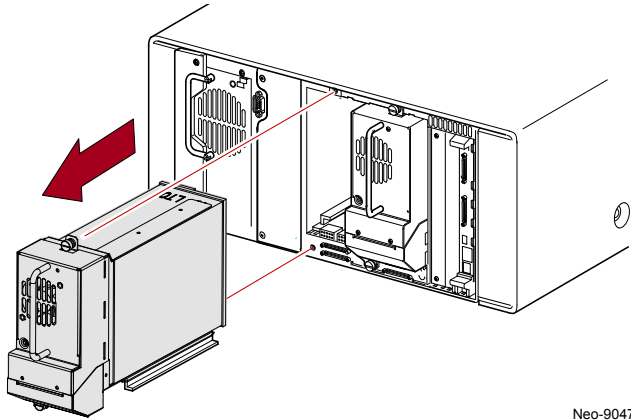

Figure 2. Removing Drive Assemblies
- Remove all drive assemblies from the drive bay being upgraded (Figure 2).